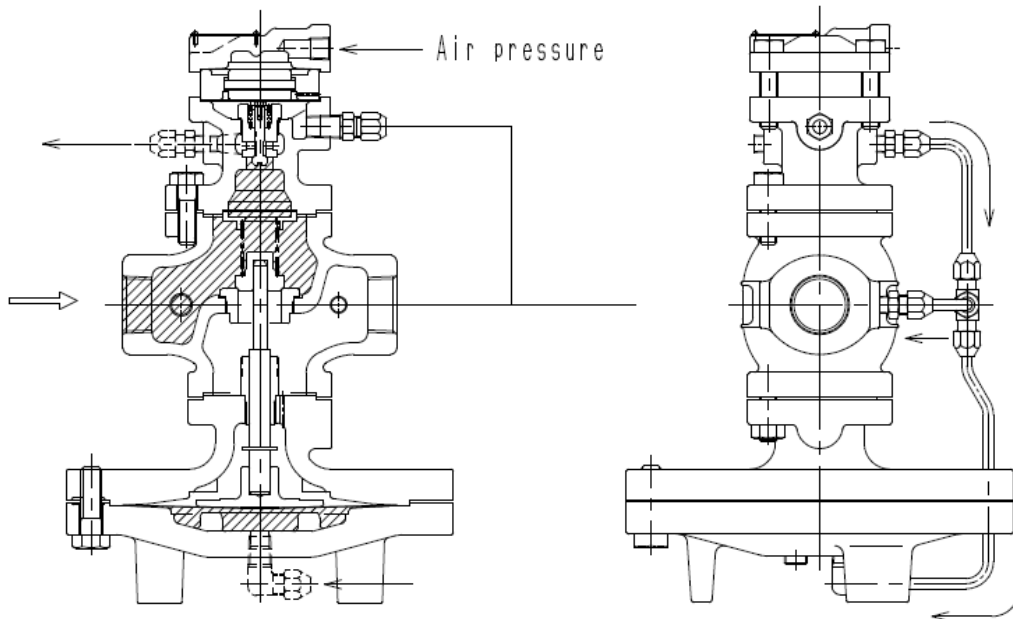

Fig.2
- (2) Introducing air pressure into air chamber flexes pilot diaphragm [23] to open the pilot valve. The fluid passing through pilot valve [17] and pilot valve seat [18] enters the main diaphragm chamber [12-1] via pipes [34] and [36]. This fluid also flows to the reduced side of the body [1] through the orifice of tee [33] and pipe [35] that connects to the body. (Fig. 2)